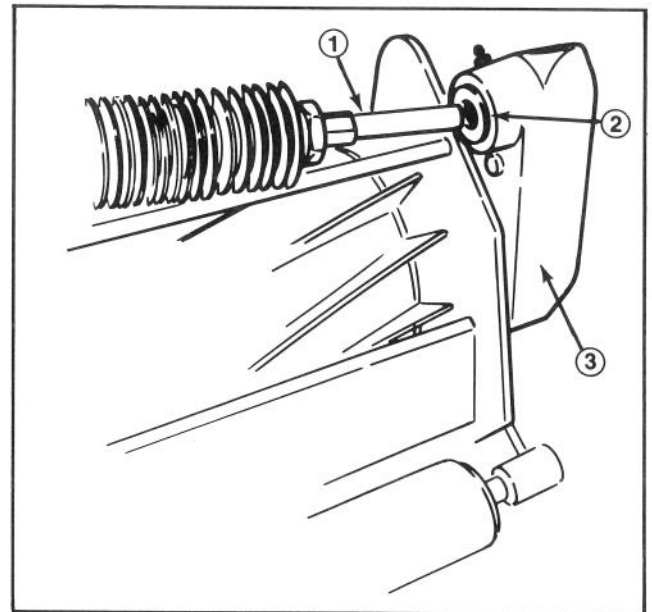
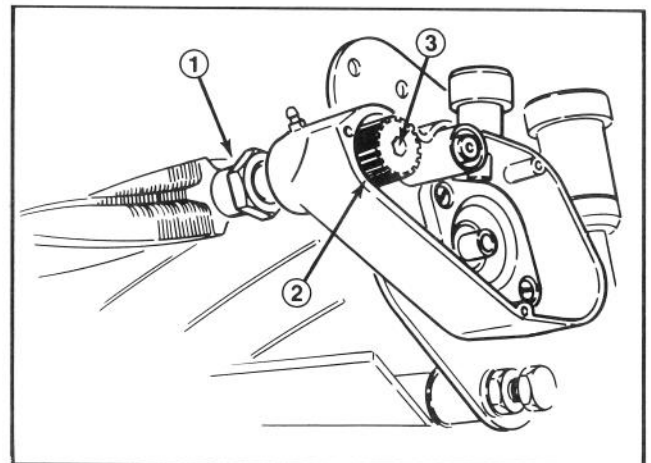

Figure 9
Figure 10
8. Slide the grooming shaft assembly into the bearing supports in the left side cast housing (Fig. 9). Install the driven pulley (left hand thread) and torque to 29 to 35 ft lbs. using a 3/8" allen socket on a torque wrench (Fig. 10).